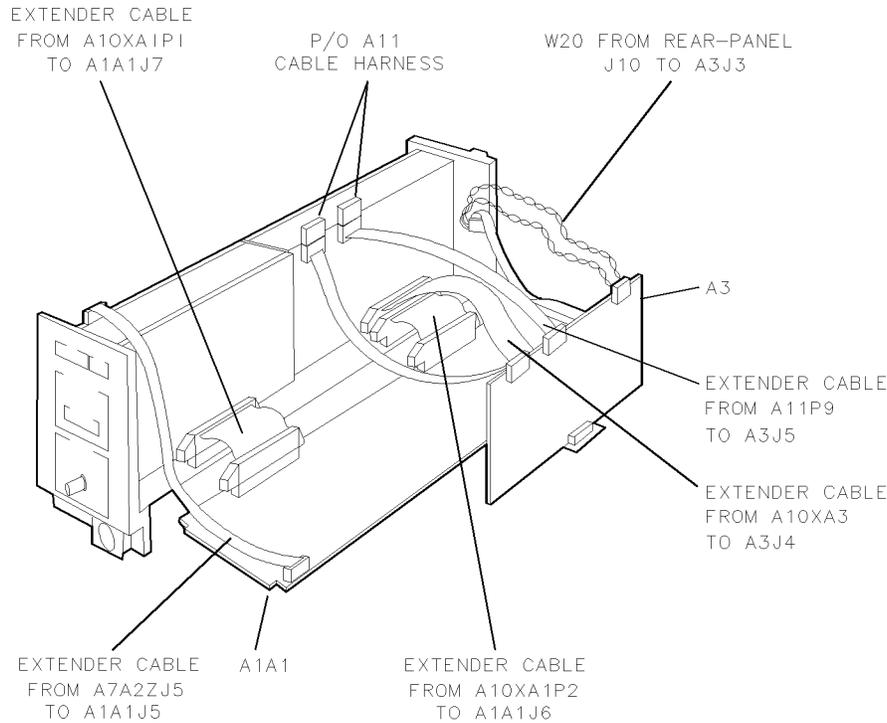

Figure 6-5. Placing A1A1 Host/Processor and A3 Power Supply on Extender Cables
2. Remove the A1A1 host/processor and A3 power supply. (Refer to “A1A1 Host/Processor” in Chapter 9 and “A3 Power Supply” in Chapter 9 replacement procedures described in Chapter 9.) Cables from the HP 70900 LO Service Kit will be used to electrically connect these assemblies to the module. See Figure 6-5.